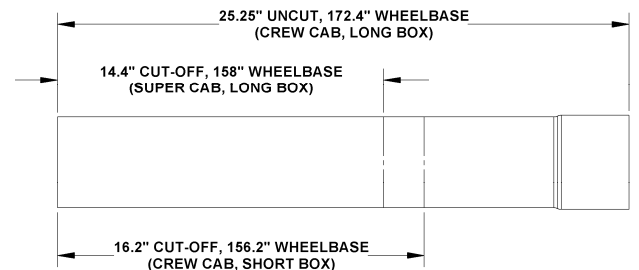

Figure 2
4. The **Extension Pipe** is pre-cut for the 172.4" (crew cab, long-box) wheelbase. If installing on a 158" or 156.2" wheelbase vehicle, cut the **Extension Pipe** to the appropriate length. Refer to **Figure 2**.